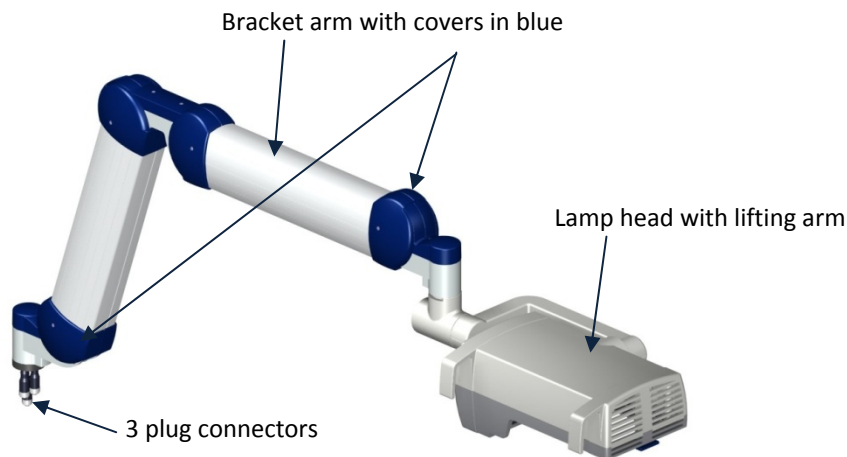

Figure 9: Pre-assembled unit with lamp head, lifting arm and bracket arm
b) The pre-assembled unit consists of the the following components, including the cable conduits in the bracket arm, electronics integrated into the lamp head and plug connectors protruding from the bracket arm (figure 9):